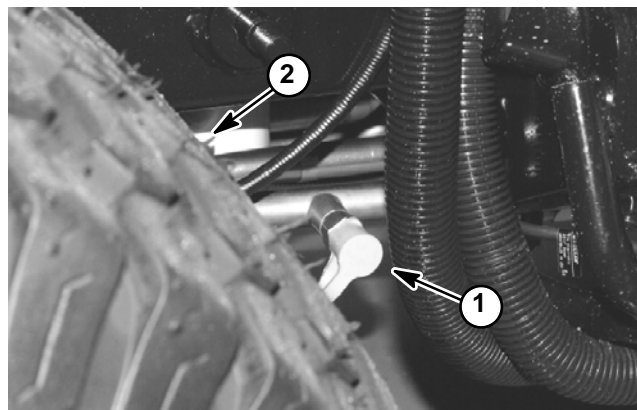

Figure 27
3. Connect a 10,000 PSI (700 bar) pressure gauge to traction circuit test port for function to be checked (Fig. 27 or 28).